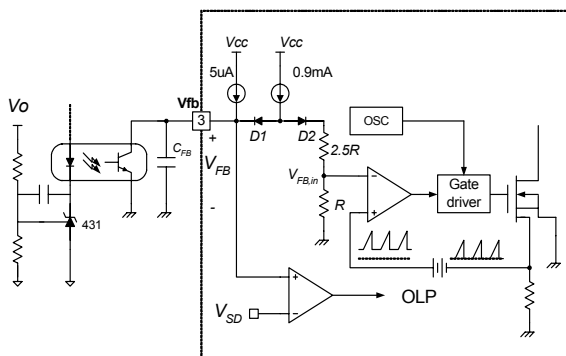

Figure 5. Pulse Width Modulation (PWM) Circuit
2. Feedback Control : The FSDx0265RN employs current mode control, as shown in Figure 5. An opto-coupler (such as the H11A817A) and shunt regulator (such as the KA431) are typically used to implement the feedback network. Comparing the feedback voltage with the voltage across the Rsense resistor plus an offset voltage makes it possible to control the switching duty cycle. When the KA431 reference pin voltage exceeds the internal reference voltage of 2.5V, the optocoupler LED current increases, the feedback voltage Vfb is pulled down and it reduces the duty cycle. This event typically happens when the input voltage is increased or the output load is decreased.
4.4 Over Voltage Protection (OVP) : In the event of a malfunction in the secondary side feedback circuit, or an open feedback loop caused by a soldering defect, the current through the opto-coupler transistor becomes almost zero (refer to Figure 5). Then, V_{FB} climbs up in a similar manner to the over load situation, forcing the preset maximum current to be supplied to the SMPS until the over load protection is activated. Because excess energy is provided to the output, the output voltage may exceed the rated voltage before the over load protection is activated, resulting in the breakdown of the devices in the secondary side. In order to prevent this situation, an over voltage protection (OVP) circuit is employed. In general, V_{cc} is proportional to the output voltage and the FPS uses V_{cc} instead of directly monitoring the output voltage. If V_{CC} exceeds 19V, OVP circuit is activated resulting in termination of the switching operation. In order to avoid undesired activation of OVP during normal operation, V_{cc} should be properly designed to be below 19V.